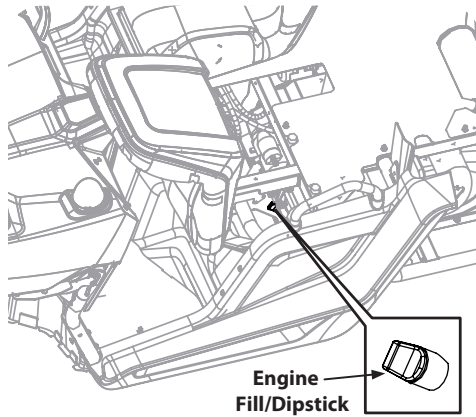

Figure 4-3
4. Refill the engine with new oil as instructed in the engine operator's manual. See Figure 4-3 for engine fill/dipstick location.